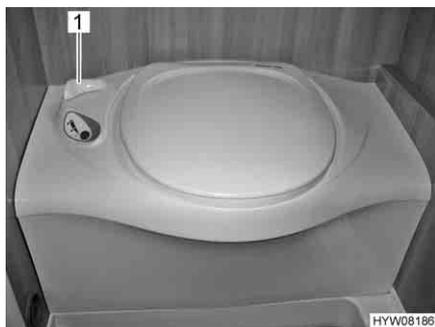

Fig. 259 Thetford toilet
- Before flushing open the sliding trap of the Thetford toilet. To do this, turn the slide lever (Fig. 259,1) in an anticlockwise direction.
- After flushing close the sliding trap. To do this turn the slide lever (Fig. 259,1) in a clockwise direction.